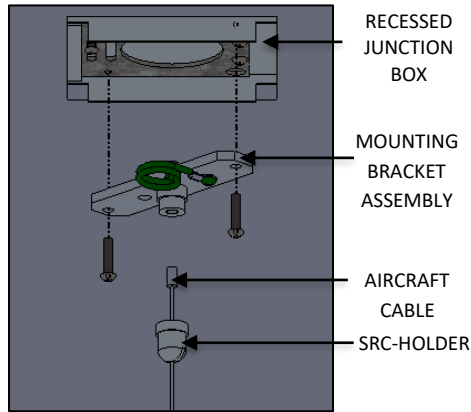

FIG. 31 – MOUNTING BRACKET
22. Feed the AIRCRAFT CABLE through the SRC-HOLDER. Then assemble the SRC-HOLDER with AIRCRAFT CABLE to the SRC-BASE on the MOUNTING BRACKET ASSEMBLY. Secure the MOUNTING BRACKET ASSEMBLY to the JUNCTION BOX with two screws as shown below in FIG. 31.